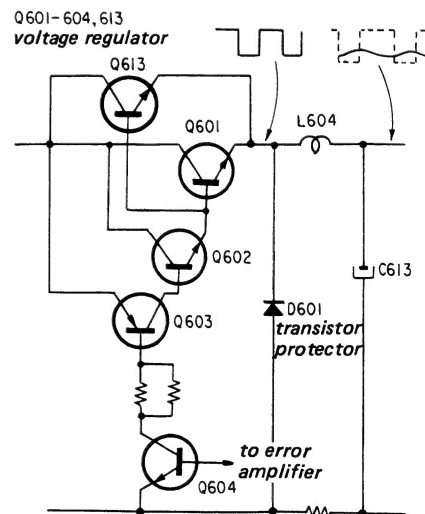
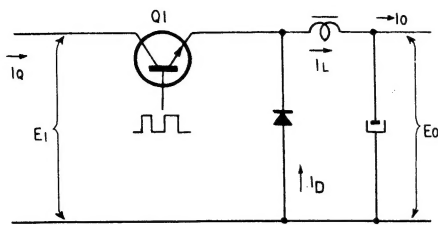

Fig. 5
Fig. 6
### 3. Chopper-Type Voltage Regulator (See Fig. 5)
- The circuit diagram in Fig. 5 is simplified to the circuit diagram in Fig. 6.